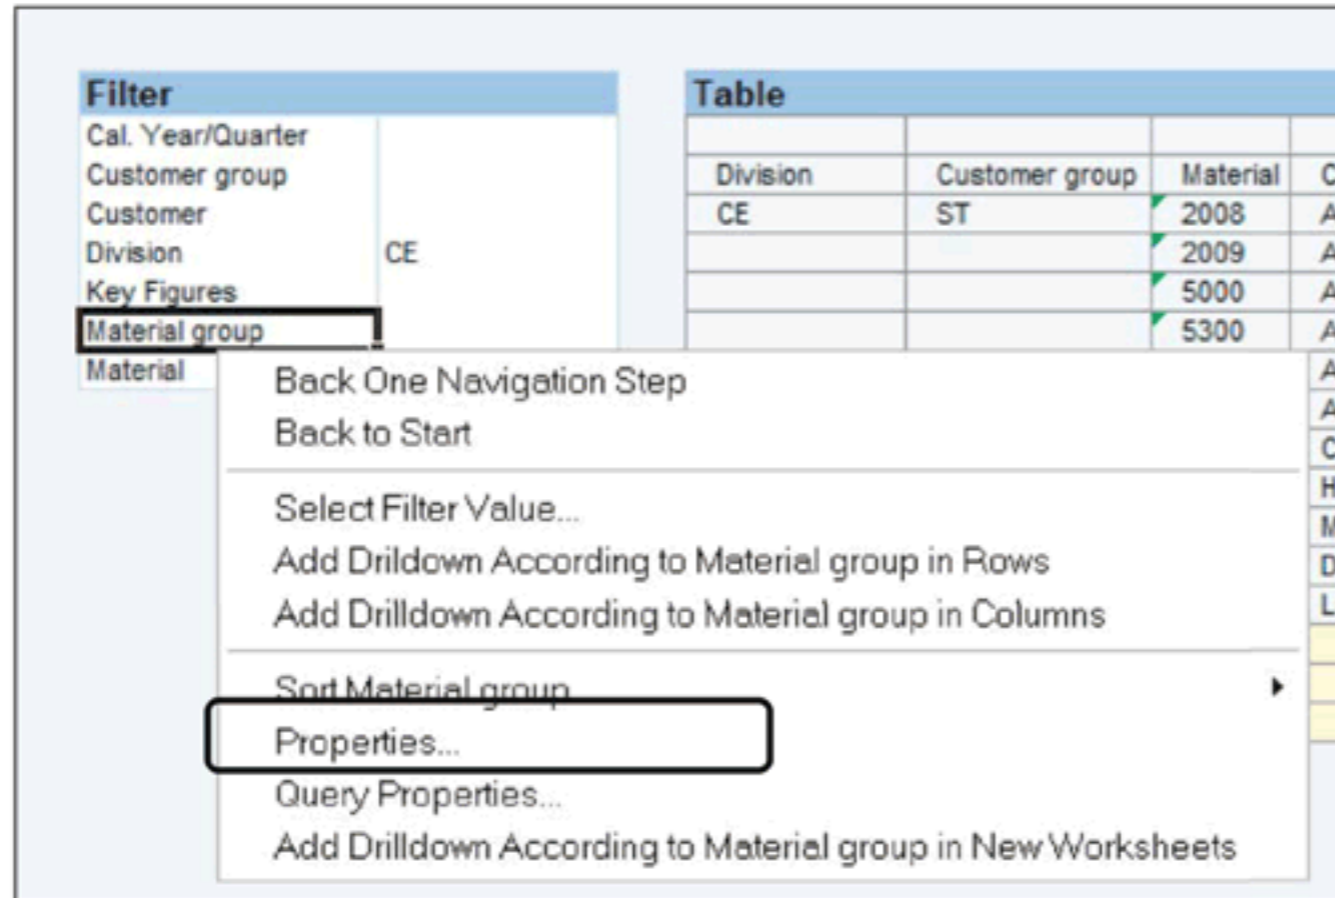
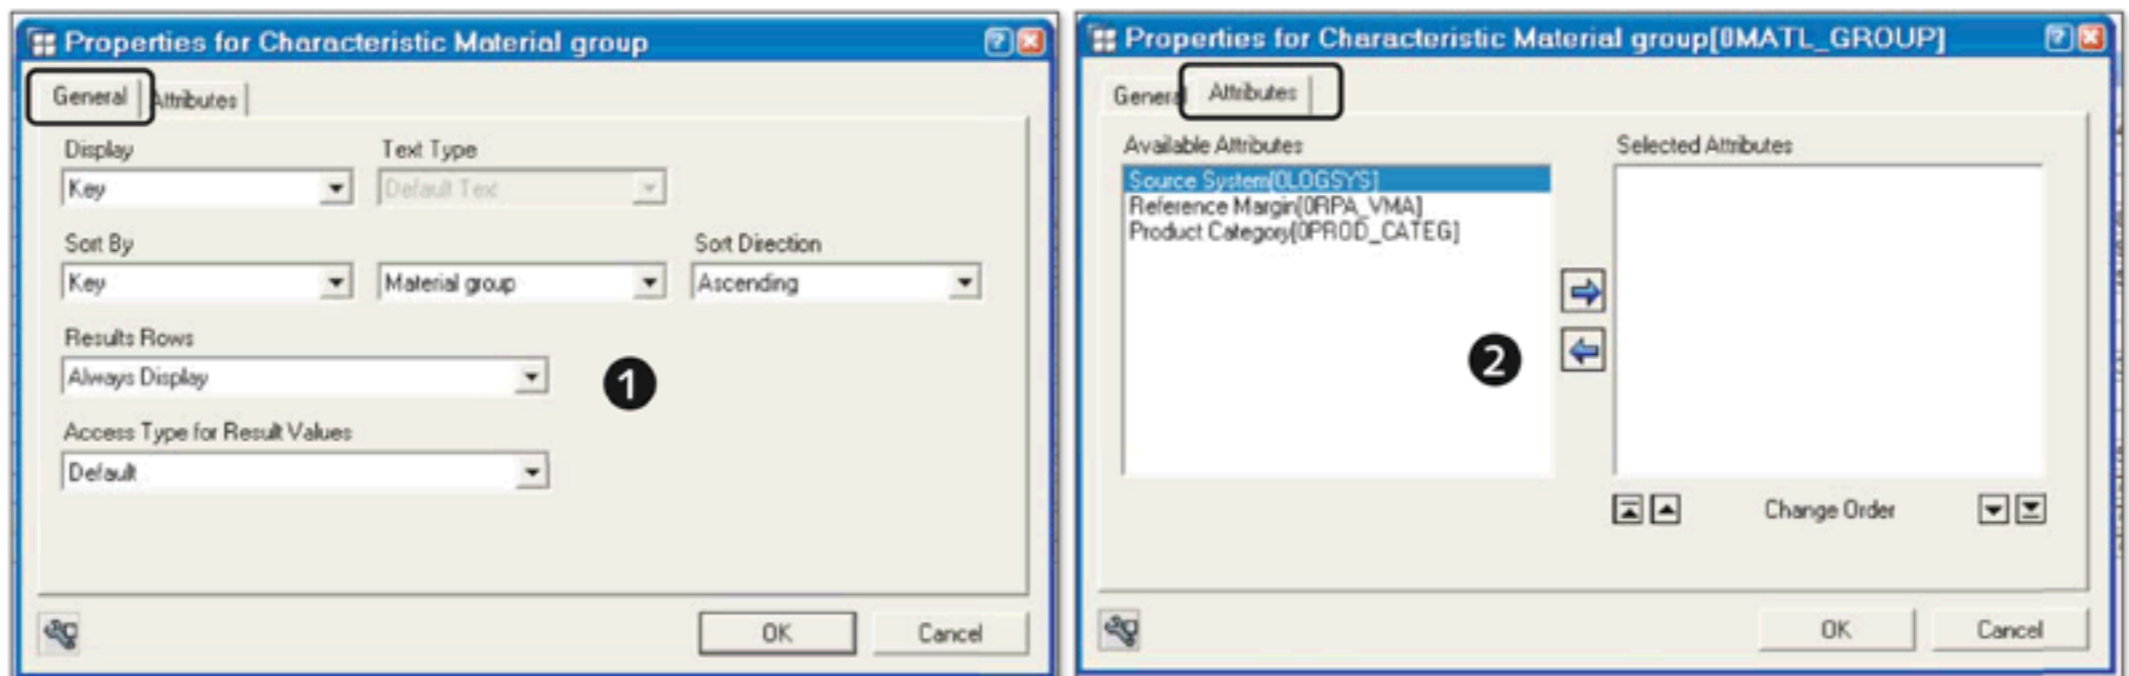

Figure 10.16 Local Properties for a Characteristic
Figure 10.17 Maintaining Characteristic Properties
To access the local properties of a characteristic, select **PROPERTIES...** from the context menu of the characteristic (Figure 10.16). This opens up a properties dialog box where you can maintain the properties (Figure 10.17).
There are two tabs visible in Figure 10.17 for **MATERIAL GROUP**: **GENERAL** and **ATTRIBUTES**. However, if the selected characteristic has hierarchies defined for it, an additional **HIERARCHY** tab is also displayed in the characteristic properties.
On the **GENERAL** tab page, you specify the properties related to display, sort order, result rows, or the access type for the values (❶ of Figure 10.17). The **ATTRIBUTES** tab is applicable only for those characteristics that have some attributes defined for them. On this tab (❷), you see a list of all of the attributes for the selected